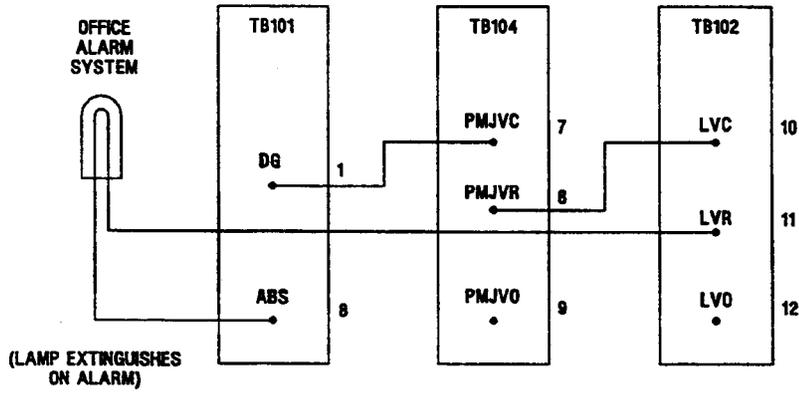

Figure 5-6: Typical Alarm Wiring
9. Connect Alarm Battery Supply and Discharge Ground to alarm contacts as required to power the office alarms. Alarms, such as ACF, should be combined with other alarms, as required, at this point. If closure-on-alarm contacts are used, alarms should be wired in parallel. If open-on-alarm contacts are used, the alarms should be wired in series. Figure 5-6 shows some examples of typical alarm wiring.